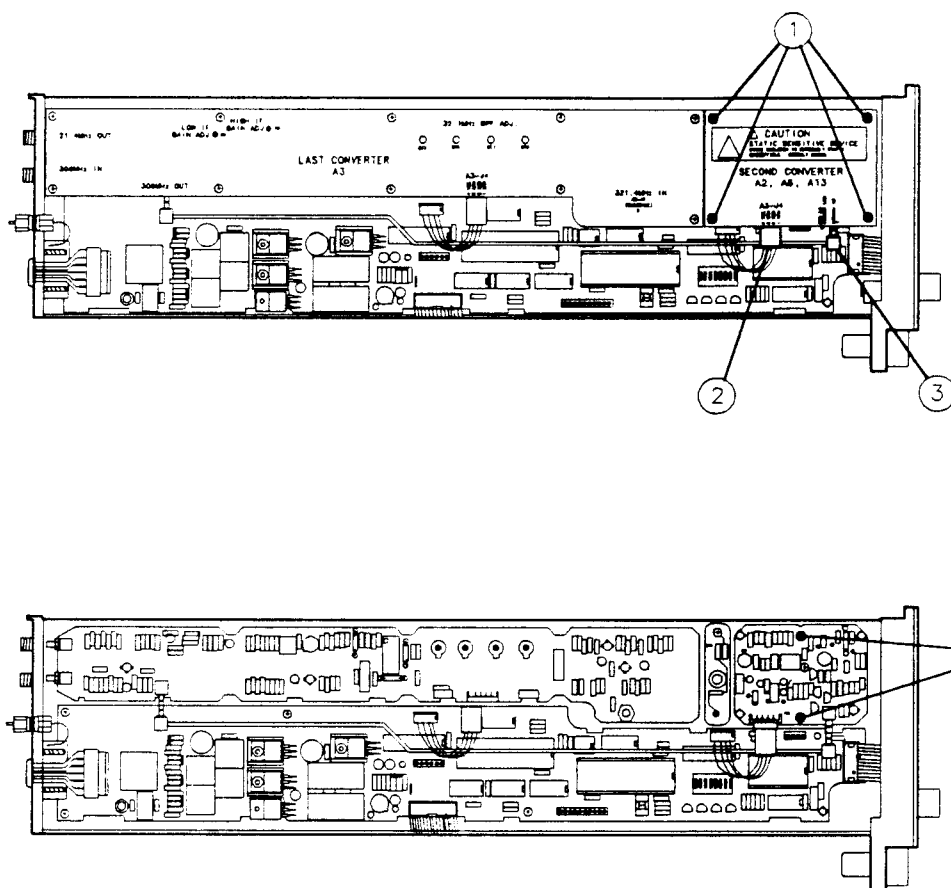

Figure 6-3. A2 Second Converter PLL Replacement
3. Remove the four screws (1) to A2, A6, A13 Second Converter cover and lift it off. See Figure 6-3.
4. Remove the W16 cable assembly connector from A2J2 (2) and W14 coaxial cable from A2J1 (3).
5. Remove the two screws (4) to A2 Second Converter board assembly and carefully lift it out of the casting.